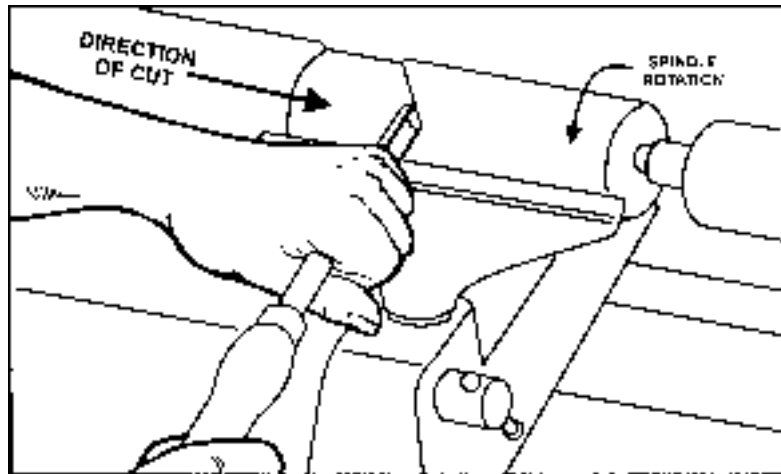

FIGURE 6
3. Beginning at the tailstock end of the workpiece, roll the flute (hollowed-out portion) of the tool in the direction of the cut, Figure 6. Make long sweeping cuts in a continuous motion to rough the piece down to a cylinder. Keep as much of the bevel of the tool as possible in contact with the workpiece to ensure control and avoid catches.